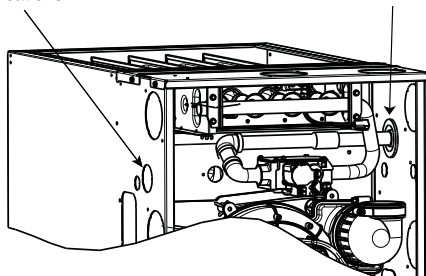

Fig. 32 – Gas Entry
Gas entry can be from left or right side, or top panel. See **Figs. 32 and 33**.
For direct vent (2-pipe) applications, the knockout for the gas pipe must be sealed to prevent air leakage. Remove the knockout, install the grommet in the knockout, then insert the gas pipe. The grommet is included in the loose parts bag. See **Fig. 32**.
5. Fasten the external electrical box to the furnace casing using two (2) sheet metal screws.
11. Connect field power and neutral leads to furnace power leads inside the external electrical box as shown in **Fig. 32**.